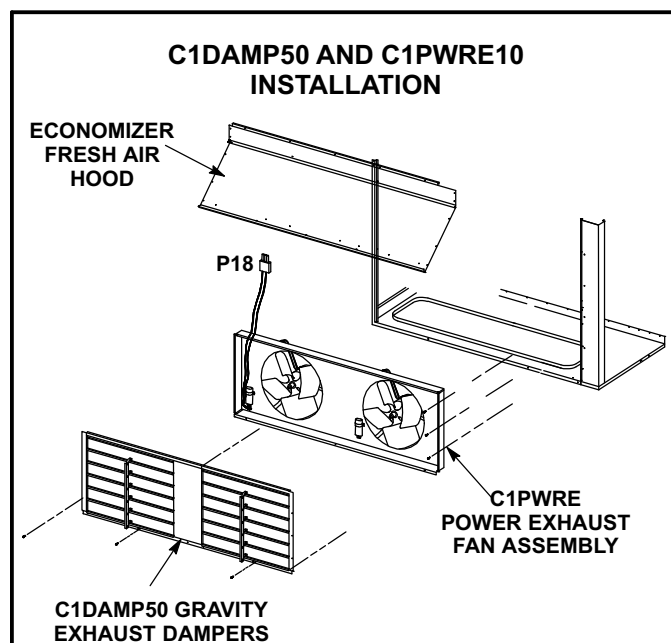

FIGURE 25
C1DAMP50 dampers (figure 25) available for KCA180/300 units, are used in downflow and LAGED(H)18/24 are used in horizontal air discharge applications. LAGED(H) gravity exhaust dampers are installed in the return air plenum. The dampers must be used any time an economizer or power exhaust fans are applied to KCA series units.
C1PWRE10C available for KCA180/300 units are power exhaust fans used in downflow applications only. The fans require optional down-flow gravity exhaust dampers and K1ECON economizers. Power exhaust fans provide exhaust air pressure relief and also run when return air dampers are closed and supply air blowers are operating. Figure 25 shows the location of the C1PWRE. See installation instructions for more detail.